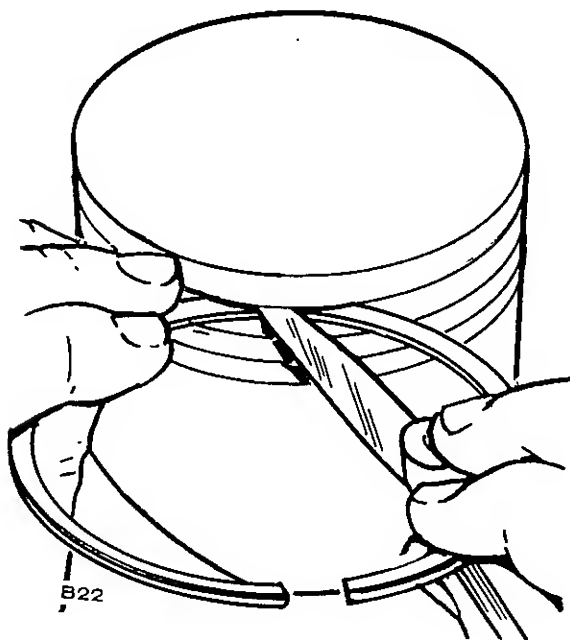

FIGURE 16-4. CHECKING RING SIDE CLEARANCE
- a. Inspect pistons for fractures at ring lands, skirts and pin bosses. Check for wear at ring lands using a new ring and feeler gauge as shown in Figure 16-4.